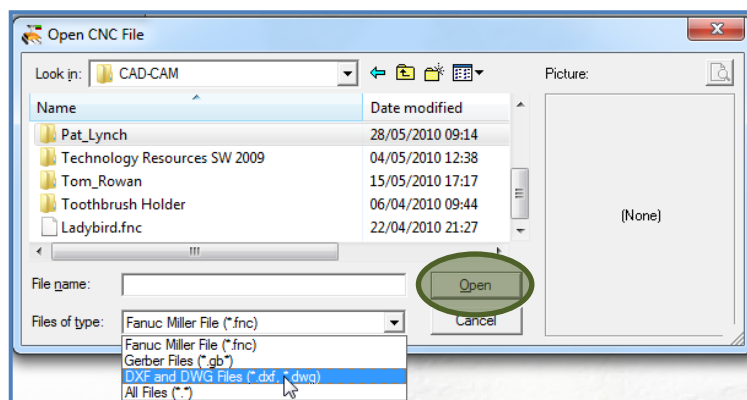

Figure 8
- Select the correct file type (Figure 8)